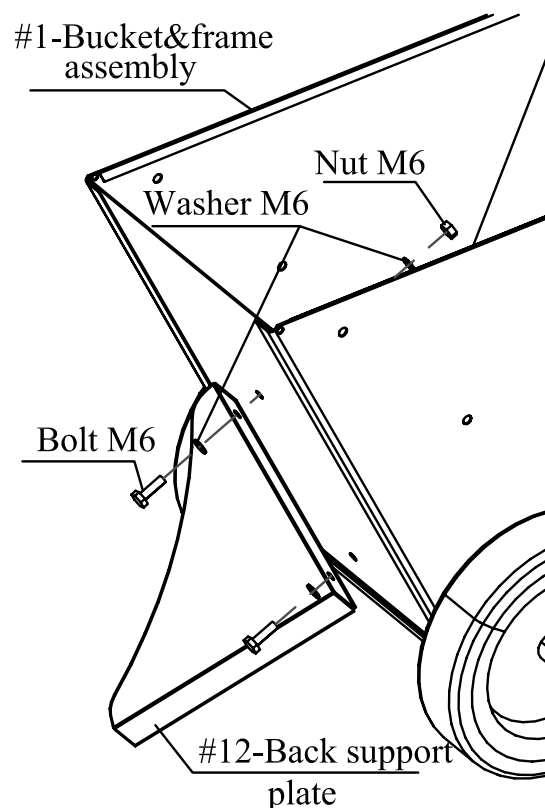

FIGURE 2
Remove attached Bolts M6x15mm, Nuts M6 and Washers M6 from Back Support Plate (12). Install the Back Support Plate to the backside of Bucket & Frame Assembly (1) with the Bolts and Nuts that were just removed. See Figure 2.